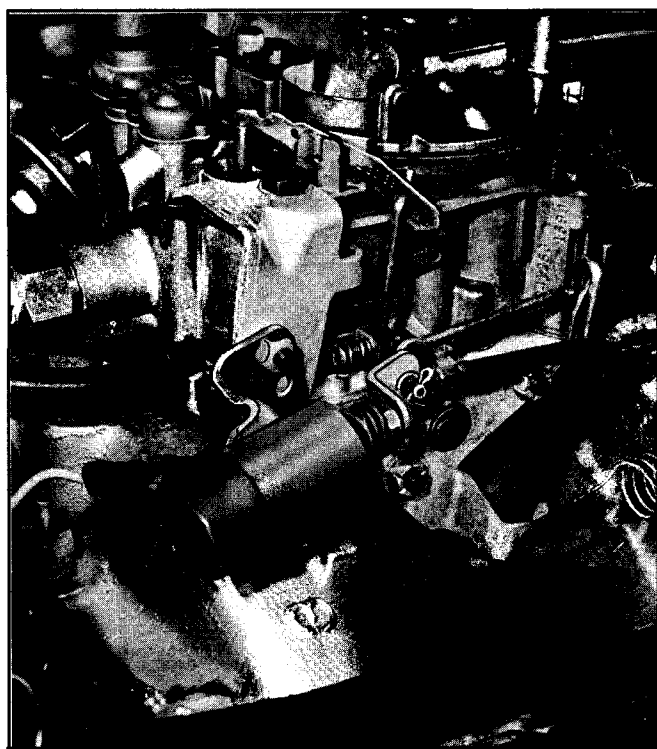

Fig. 6D-18 Idle Stop Solenoid (4 Bbl. V-8)
- a. With slow idle speed set to specified RPM, manually extend C.E.C. Valve plunger to contact throttle lever (Fig. 6D-17).